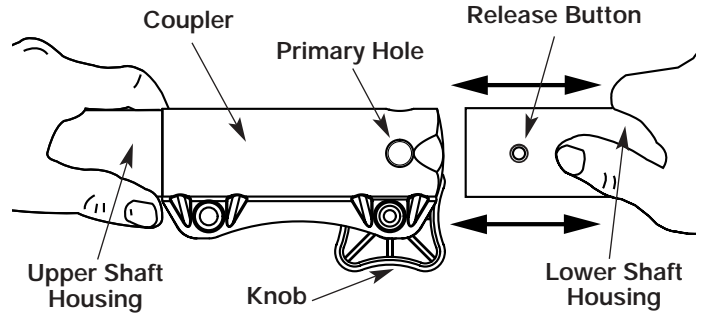

Fig. 2
3. While firmly holding the upper shaft housing, pull the garden cultivator Add-On out of the coupler (Fig. 2).
3. While firmly holding the add-on, push it straight into the coupler (Fig. 2).
**CAUTION:** Lock the release button in the primary hole (Fig. 2) and securely tighten the knob before operating this unit.